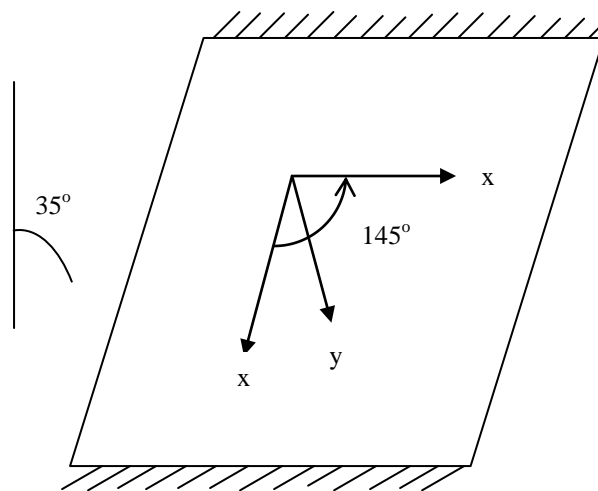

Figure 2.0 : Skew Slab Axes
2. (a) Figure 2.0 shows the design moment trial, at the ultimate limit state in the obtuse corner of a reinforced concrete skew slab bridge.